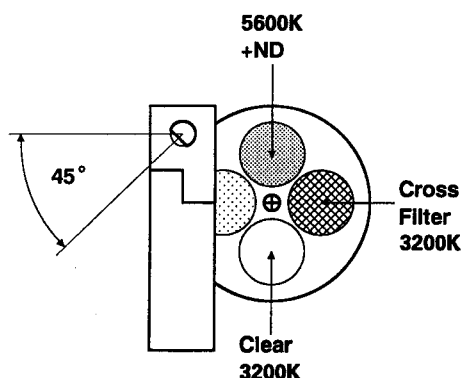

Fig. 1-3-6 Position Relationship Between Filters and Filter Shaft
- Usually, the optical filter assembly does not need to be removed. However, when it is removed then attached, observe the position relationship between the filters and filter shaft as shown in Fig. 1-3-6.